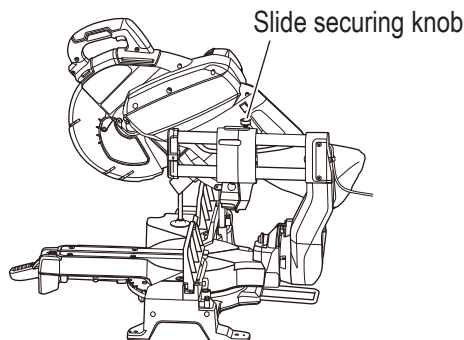

Fig. 14
4. Slide carriage system (Fig. 14)
For chop cutting operations on small workpieces, slide the cutting head assembly completely toward the rear of the unit and tighten the slide securing knob. To cut wide boards up to 312 mm, the slide securing knob must be loosened to allow the cutting head slide freely. (Fig. 14)